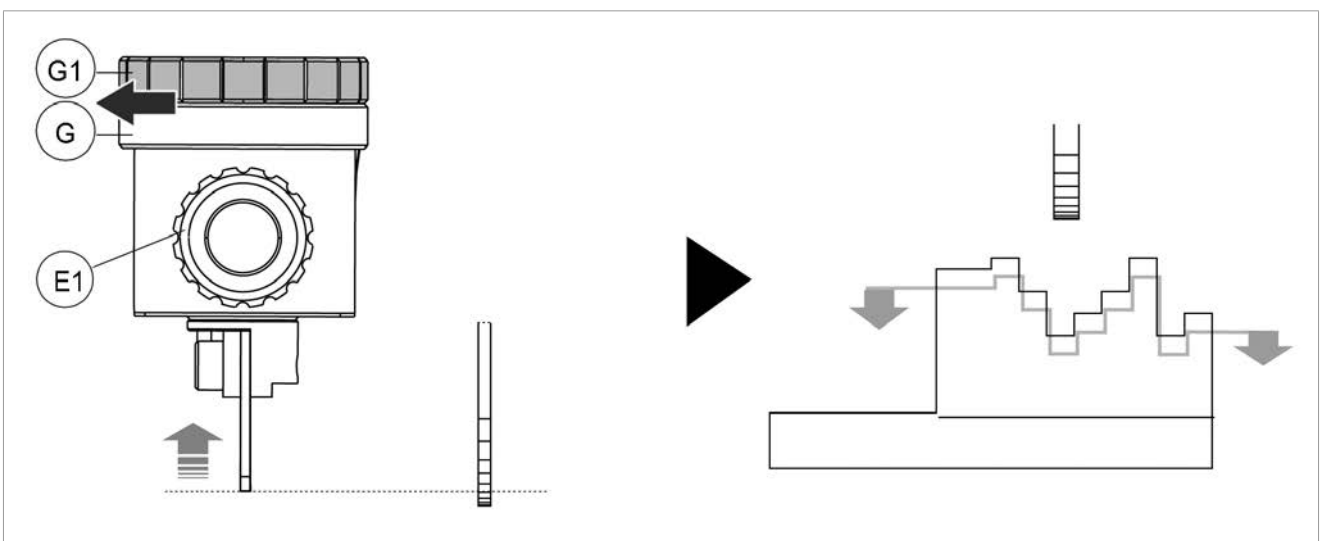

Fig. 19
- turn the ring nuts (G) and (G1) anticlockwise to return (deeper cuts) (Fig. 19).